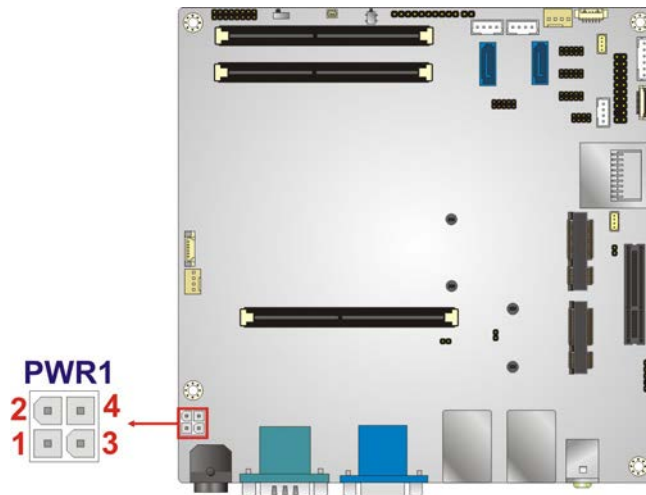

Figure 3-7: CPU Power Connector Location
- CN Location:** See **Figure 3-7**